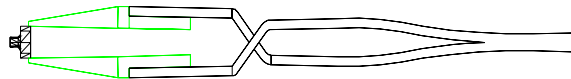

Figure 5-7: Holding the cell window for reinsertion into the manifold
- c. Lift the window with the tweezers. (Pick up the window near its back edge as shown in Figure 5-7.)